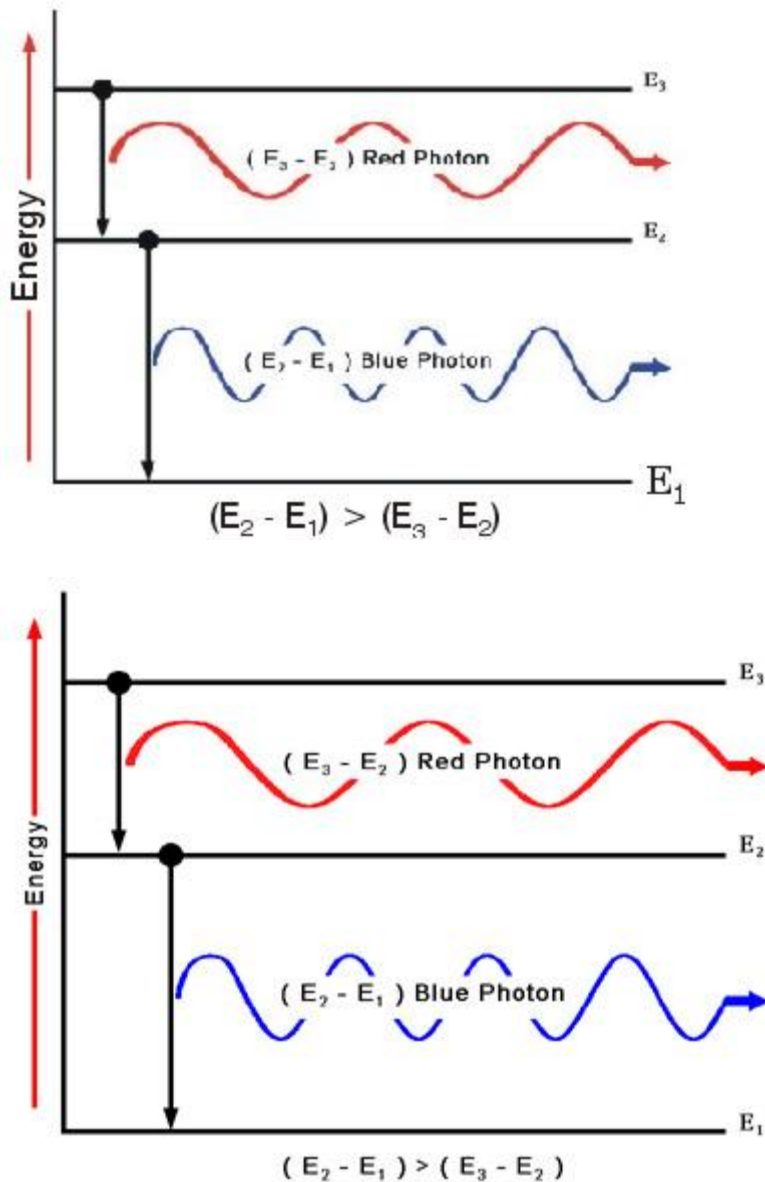

Fig. 9
(24) In many cases, this excess energy appears as a photon of light. A **photon** is a quantum of light having a characteristic wavelength and energy content; in fact, the wavelength of the photon is determined by its energy. A photon of longer wavelength (such as that for red light) possesses less energy than one of shorter wavelength (such as that for blue light), as illustrated in Figure 9.